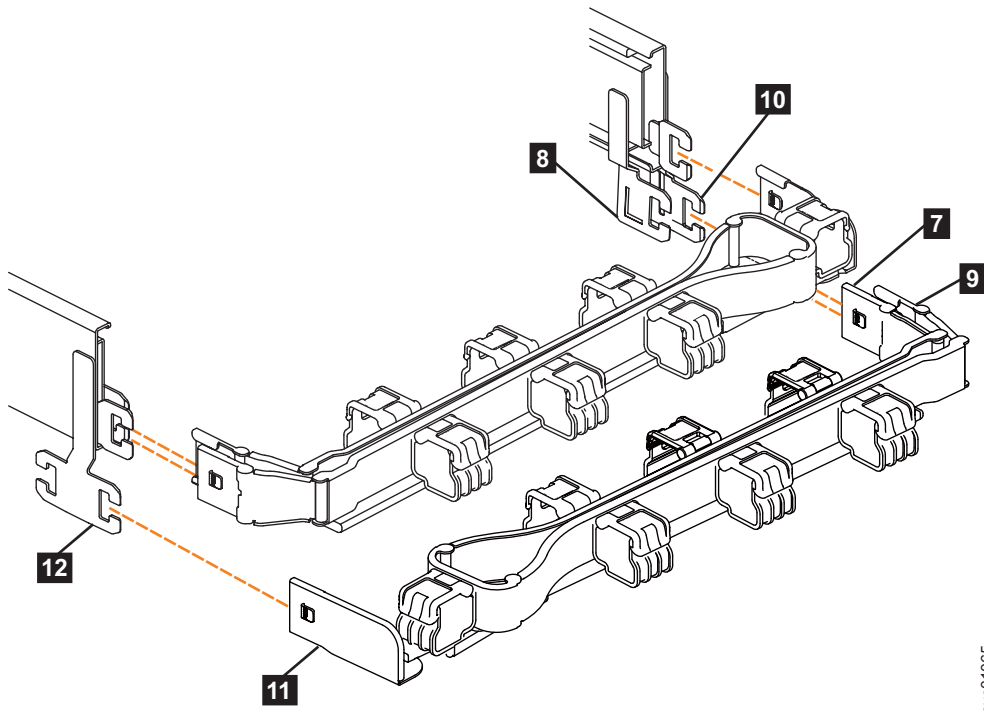

Figure 57. Comparing the location of the components of the CMA assemblies
Note: The procedure for attaching the lower CMA assembly is the same as the procedure to attach the upper CMA assembly. However, the connector locations are reversed. For comparison, Figure 57 on page 62 shows the upper and lower CMA assemblies as they are aligned to the support rails. The support rail connector of the upper CMA attaches to the right rail. The support rail connector of the lower CMA **11** attaches to the left rail.
5. Install the inner connector of the lower CMA assembly (**7**) to the inner member of the right support rail (**8**), as shown in Figure 57).
6. Install the outer connector of the lower CMA assembly (**9**) to the outer member of the right support rail **10**, as shown in Figure 57.
7. Attach the support rail connector on the lower CMA assembly (**11**) to the connector on the left support rail (**12**), as shown in Figure 57. Ensure that the lower CMA assembly is securely attached to the hooks on the end of the support rails.